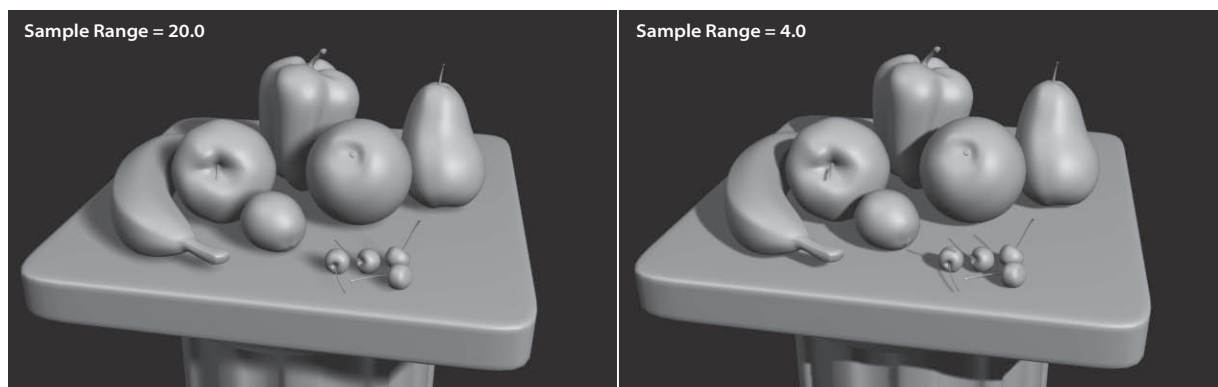

Figure 10.43
**Sample Range**—This creates and controls the softness of the edge of shadow-mapped shadows. The higher the value, the softer the edges of the shadow. Figure 10.43 shows you how a soft edge (on the left) can make the lighting seem less strong or farther away from the subject than crisp shadows (on the right).